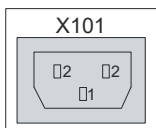

Fig. 4: Power supply socket 100-240 V
The power supply is connected via the IEC socket (X101) on the rear side of the industrial PC. The assignment includes a protective conductor (1), a neutral conductor (2) and an outer conductor (2) (see Fig. 4).